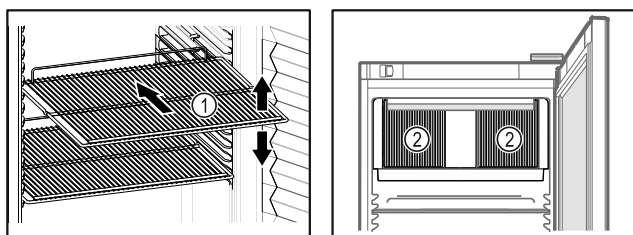

Fig. 30 Example illustration Fig. 31
- ❑ If storage surfaces Fig. 30 (1) are movable, adjust them according to height.